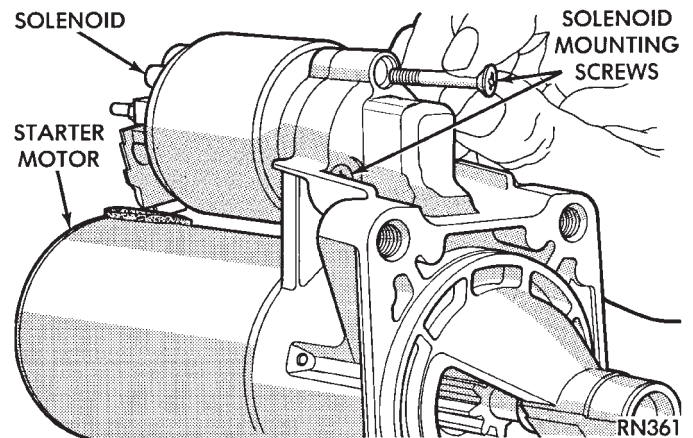

Fig. 17 Solenoid Mounting Screws
- (4) Remove three solenoid mounting screws (Fig. 17).